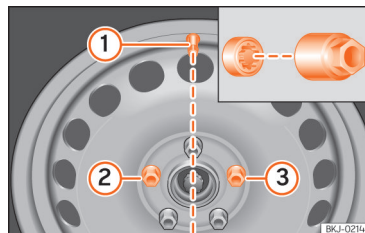

Fig. 188 Tyre change: tyre valve ① and the correct position for the anti-theft wheel locking bolt ② or ③.
On wheels with integral hubcaps, the anti-theft wheel locking bolt must be screwed in the positions >>> Fig. 188 ② or ③, taking as reference the position of the tyre valve ①. Otherwise it will not be possible to mount the hubcap.